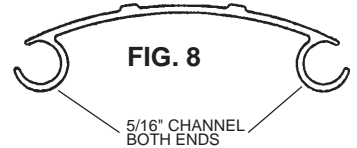
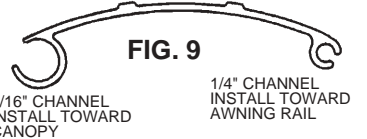

FIG. 8
FIG. 9
1. Remove vinyl strip **A** (FIG. 11), and hinge slat **B** (FIG. 10) from top slat **C** (FIG. 8). Remove two of Slat **D** (Fig. 9). Discard vinyl strip **A**, hinge slat **B** and the two **D** slats .
2. Remove top slat **C** (FIG. 8) from roller cover assembly and keep to be installed later.
4. Use a small file to round the ends of the groove in the 5/16" channel of the main slat **D** (FIG. 9).
7. Use a small file to round the ends of the 5/16" grooves on the top slat **C** (FIG. 8) to prevent tearing of the fabric. Slide the top slat **C** onto both the 1/4" channel of the fifth main slat **D** and the poly-rope 1-1/2" from the edge of the fabric.